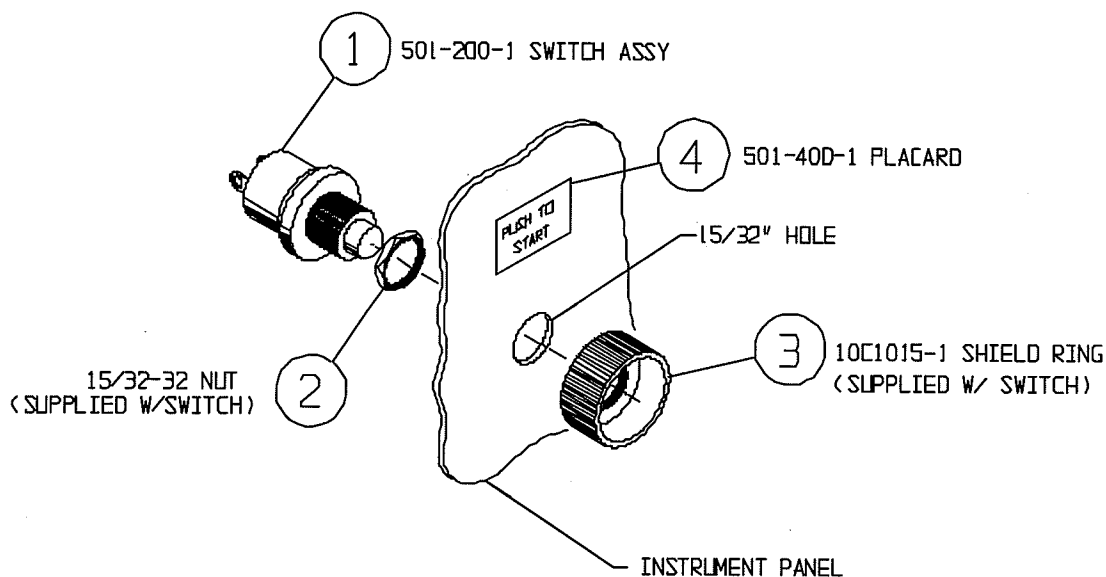

Figure 2
Step 16. Referring to Figure 2, determine suitable location for start push-button and drill 15/32" hole. Install push button assembly (1) with supplied nut (2) and shield ring (3). Install placard (4) above pushbutton.